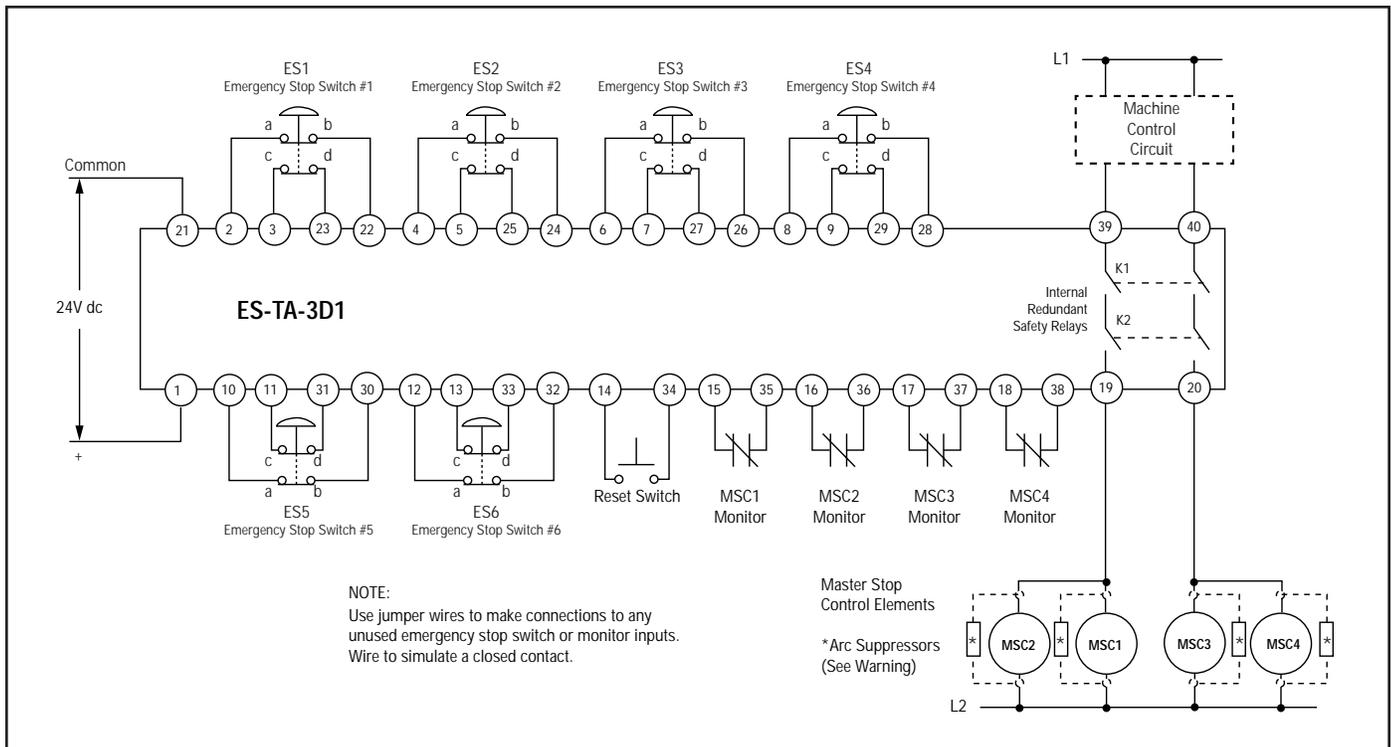

Figure 3. General hookup information for model ES-TA-3D1 Emergency Stop Monitoring Safety Relay
As indicated in Figure 3, a typical Emergency Stop switch offers two redundant switching contacts. In a properly designed machine stop circuit, the opening of either of the two emergency stop contacts immediately removes electrical power from the machine control elements which react to stop hazardous machine motion and/or any other machine hazard. This redundancy of stopping control offered by a two-pole Emergency Stop switch is the first step towards control reliability. However, failure or defeat of one of the switch contacts to a short-circuit will go undetected, thereby removing the redundancy, and leaving the Emergency Stop circuit prone to eventual failure.
The ES-TA-3D1 safety relay connects up to six Emergency Stop switches to the machine Emergency Stop control elements. The Emergency Stop switches become the inputs to the safety relay. The safety relay monitors the condition of both contacts of each Emergency Stop switch connected to it. The output of the safety relay consists of two redundant output switching channels, each of which is the series connection of two force-guided relay contacts (K1 and K2 in Figure 3).
As shown in Figure 3, each Emergency Stop switch must provide two contacts which are closed when the switches are in the “ready” position. Once activated, the Emergency Stop switch must open both contacts. The switch may be returned to the closed-contact position only by a deliberate action (such as twisting, pulling, unlocking, etc.). Additionally, NFPA79, section 13.2 Emergency Stop Devices specifies the following switch (“stop control”) requirements:
Connect the two poles of each Emergency Stop switch as shown in Figure 3. The switches in Figure 3 are shown in their "ready" position with both contacts closed. See Product Specifications on page 20 for E-stop Switch Input Requirements.
- 2) Close all E-stop inputs. Ensure all monitoring inputs are closed and that the Reset input is open. (Refer to Figure 3.)
The hookup diagram (Figure 3) shows a generic connection of the ES-TA-3D1 safety relay's two redundant output circuits to master stop control elements MSC1, MSC2, MSC3 and MSC4. A master stop control element is an electrically powered device, external to the ES-TA-3D1 safety relay, which stops the machinery being controlled by immediate removal of electrical power to the machine and (when necessary) by applying braking to dangerous motion (reference ANSI B11.19, section 5.2: "Stop Control"). This stopping action must be accomplished by removing power to either master stop control element.
To satisfy the requirements of Safety Category 4 of prEN 954-1, the master stop control elements must offer a normally closed, force-guided monitor contact. One normally closed monitor contact from each master stop control element is wired to the appropriate terminals on the module (see Figure 3). In operation, if any of the master stop control elements fails to de-energize, the associated monitor contact will remain open. As a result, it will not be possible to reset the ES-TA-3D1 safety relay.
It is strongly recommended that one normally closed auxiliary contact of each Master Stop Control element (MSC) be wired as an MSC monitor contact, as shown in Figure 3. If this is done, any inconsistency of action between the MSCs will create a fault condition, which will prevent the E-stop relay from resetting.